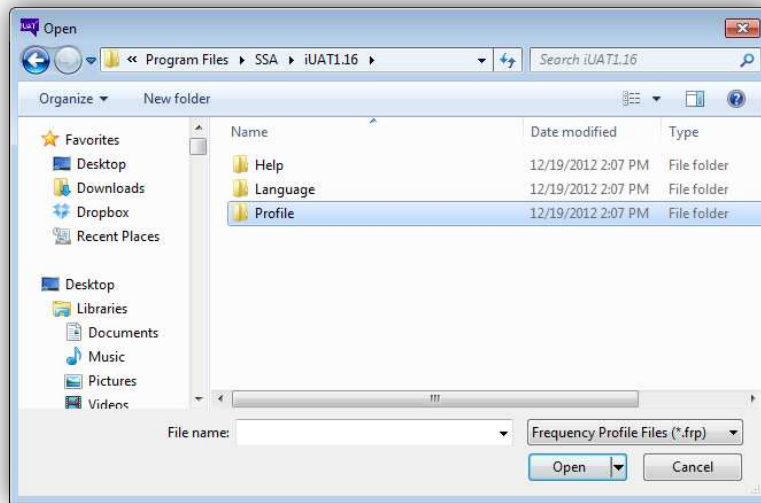

Figure 12: Frequency profile selection
3. A dialog box will appear for you to specify the location of frequency profile (Figure 12). Double-click on folder "Profile."